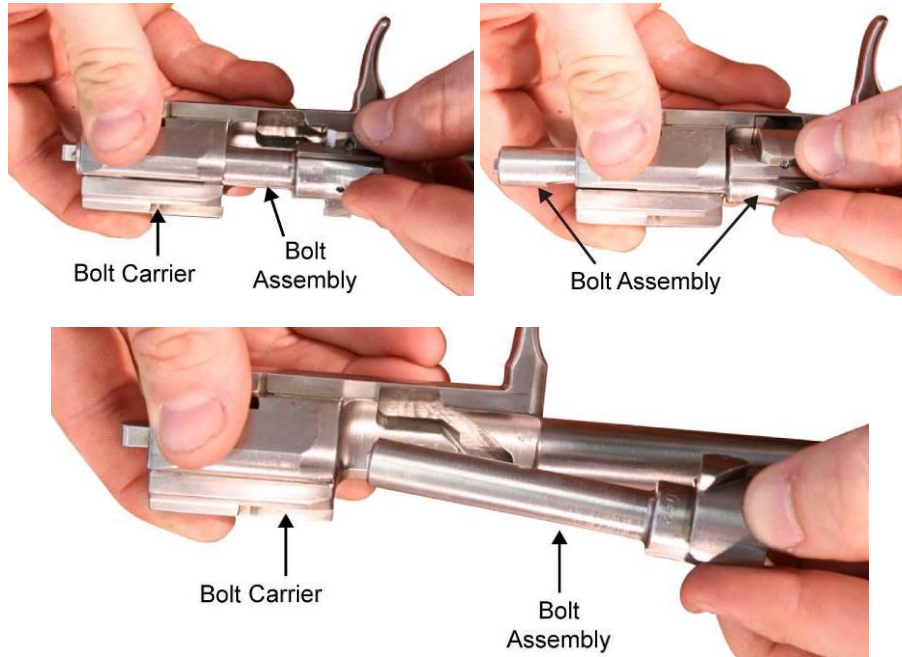

Figure 9. Removing the Bolt Assembly.
7. Remove the bolt assembly by pushing it to the rear of the bolt carrier, turning it until the bolt cam comes out of the cam recess in the bolt carrier, and pulling the bolt assembly out (toward the gas piston). Refer to Figure 9.